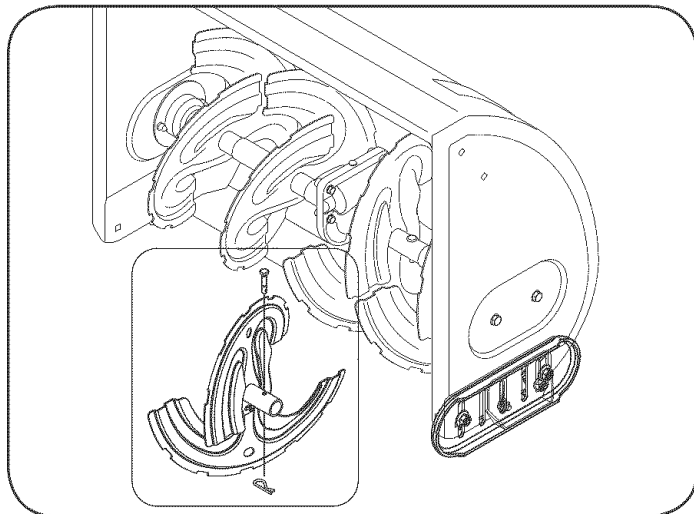

Figure 16
The augers are secured to the spiral shaft with two shear pins and cotter pins. See Figure 16. If you hit a foreign object or ice jam, the snow thrower is designed so that the pins will shear.
2. Replace the pins if needed. Two replacement shear pins and cotter pins have been provided with the snow thrower. Spray an oil lubricant into shaft before inserting new pins and securing with new cotter pins. See Figure 16.